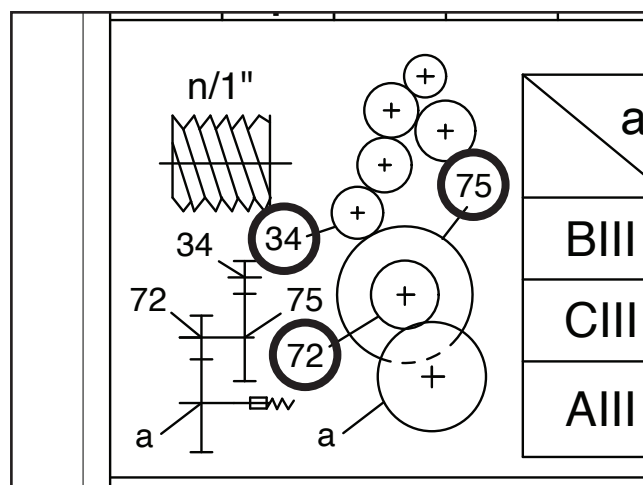

Figure 86. Locating constant inch threading gears.
1. Locate upper, middle inner, and middle outer gears on inch thread chart (see **Figure 86**). 34T, 75T, and 72T gears must always be installed in these positions for inch threading.